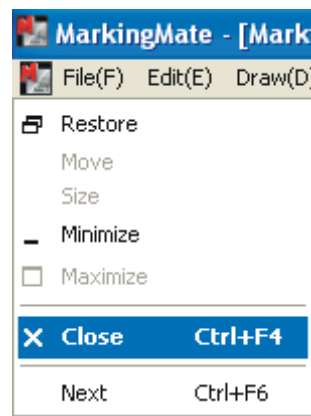

Fig.1.1.03
- Click the upper left icon  like Fig.1.1.03 and select “**Close**” to close the file.